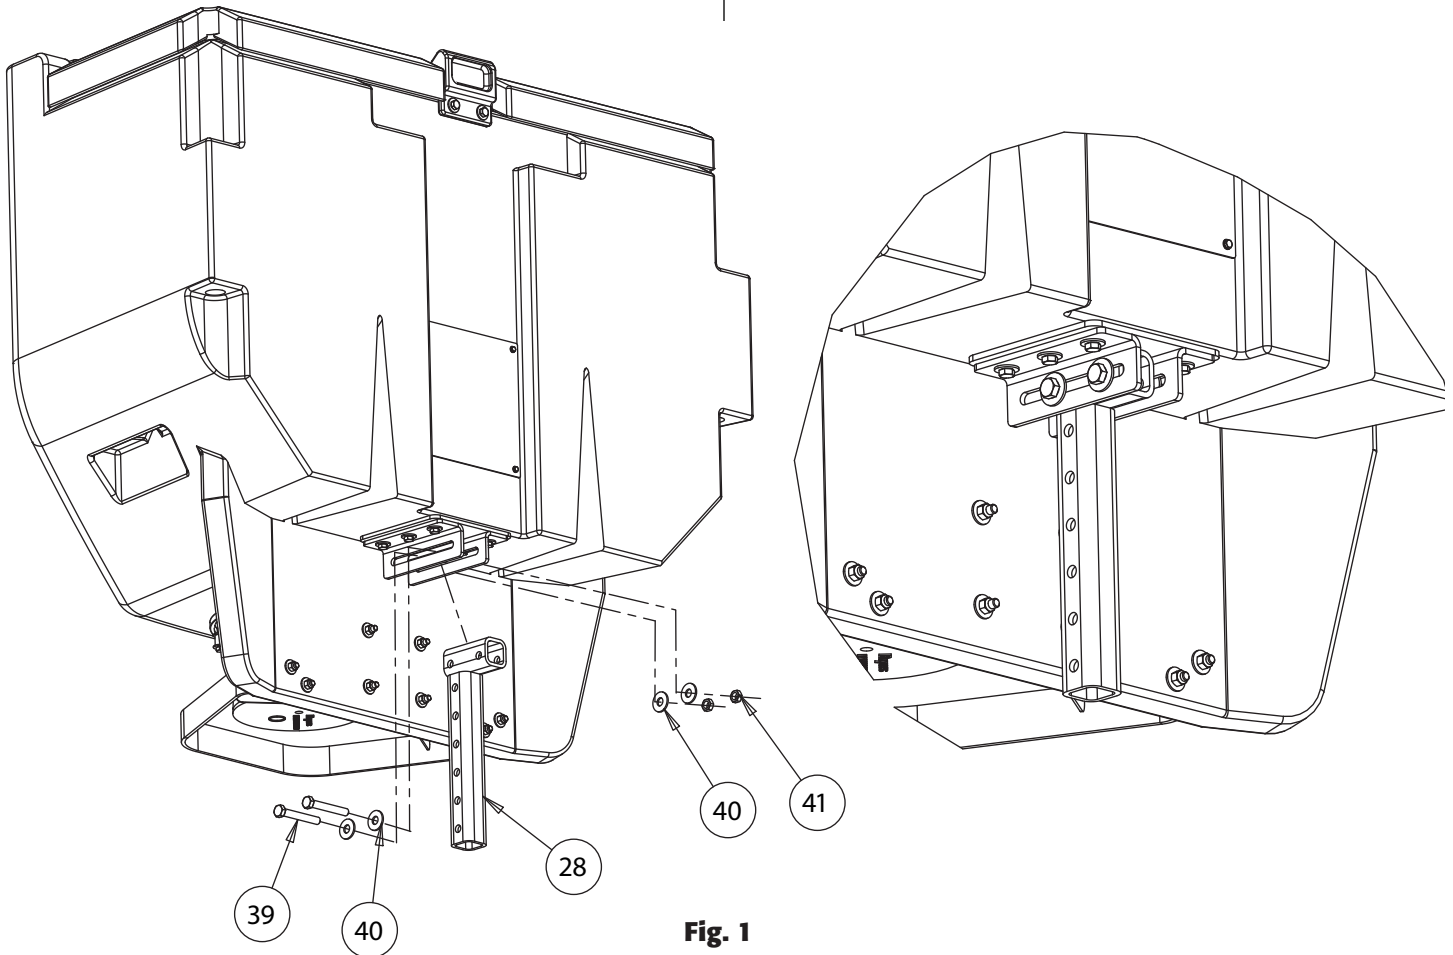

Fig. 1
1. Assemble and install Hitch Adjuster to spreader assembly. Refer to Fig. 1.